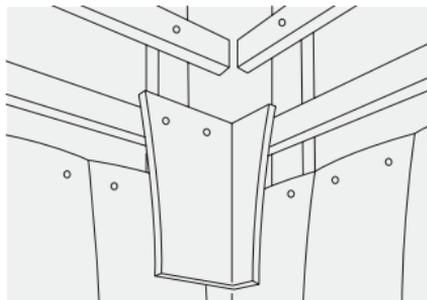

Fig. 26 – Internal angle with Internal Angle tiles
- 2 Left and right hand angles of 90° (or other angle to suit) are available to provide a broken bond with main tiling, to be twice nailed (Figs. 26 and 27).